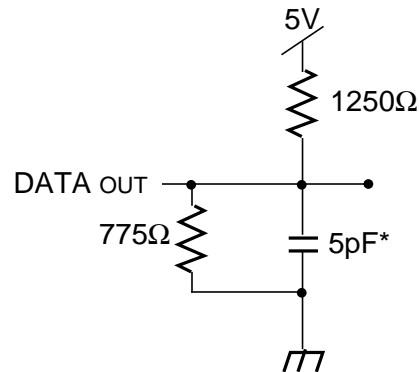

Figure 2. Output Test Load
1. Transition is measured ±500mV from Low or High-impedance voltage Output Test Load (Figure 2).
1. Transition is measured $\pm 500\text{mV}$ from Low or High-impedance voltage with Output Test Load (Figure 2). This parameter is guaranteed by device characterization but is not production tested.
7. This parameter is determined by device characterization, but is not production tested. Transition is measured +/- 500mV from steady state with the Output Test Load (Figure 2).